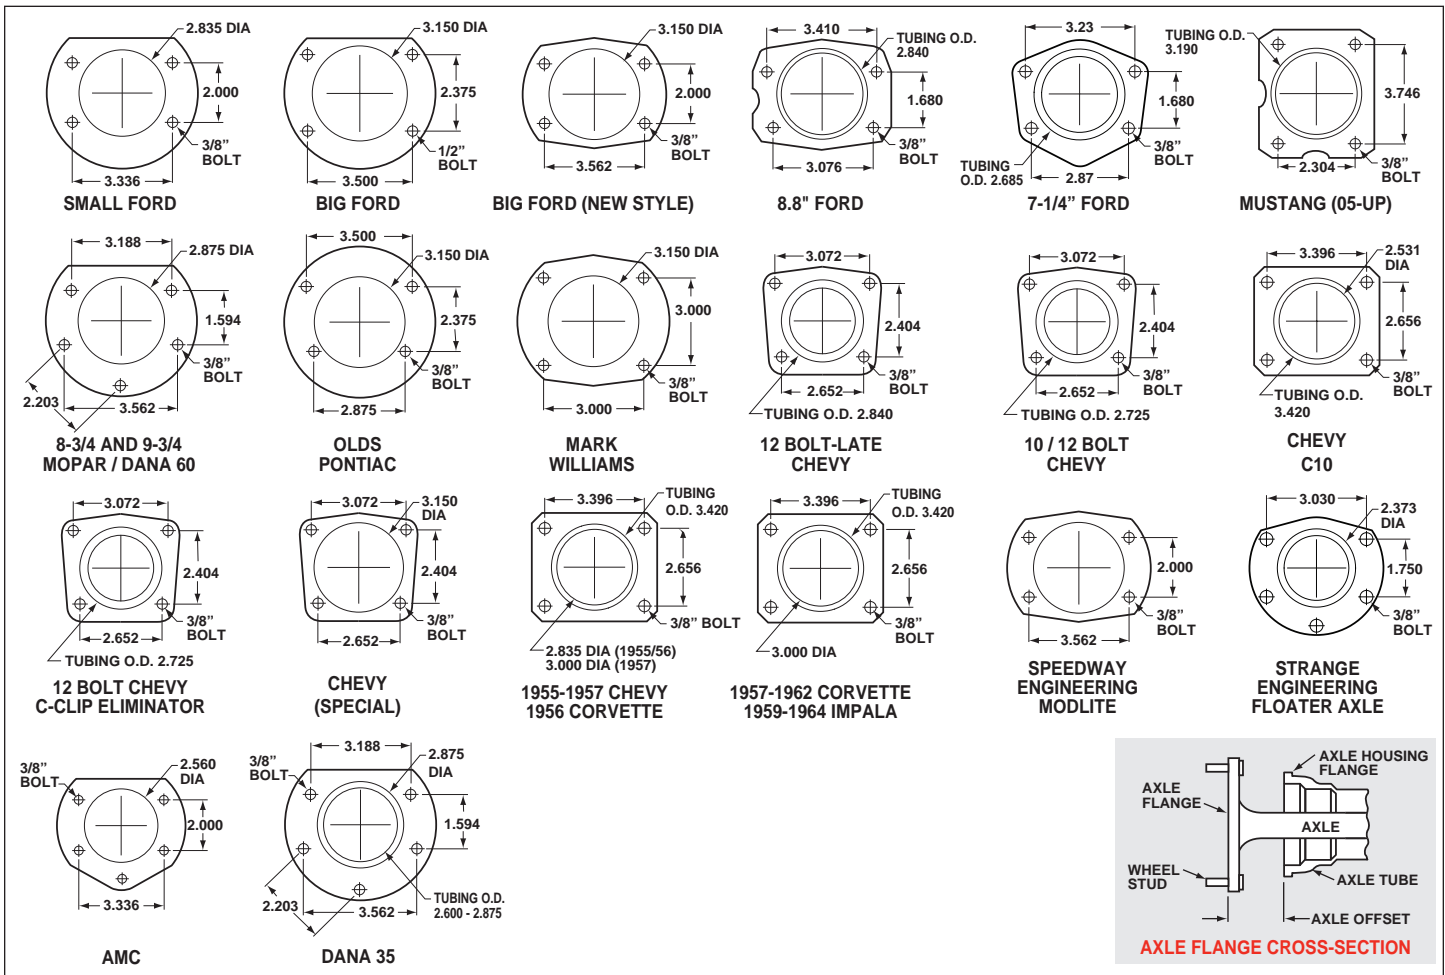

Figure 5. Rear Housing Flange Chart and Axle Flange / Offset Cross-Section
- Make sure this is the correct kit to fit the axle housing flange, not necessarily the rear end make. Many times after market manufacturers put a different make of axle housing flange on the stock rear end housing (see Figure 5). Example; Big Ford rear ends with Olds-Pontiac flanges, therefore, an Olds-Pontiac rear disc brake kit would be the correct kit to order. Also, shock clearance may be a problem. They may have to be modified and/or relocated to clear the Wilwood kit after final assembly.
- Dimension from wheel side of axle flange to wheel side of axle housing flange (see Figure 5, lower right hand corner). This dimension is critical to ensure proper alignment of the rotor to the caliper, and should match offset given in the kit description..